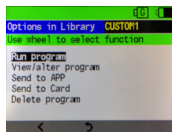

Fig. 17f
Once a program has been saved it will appear in the Program Driver (PD) library in the right half of the screen under Select a program in the Main Menu. Use the VariBase buttons (right/left) to switch between screen areas. If you select a custom program you will have the following options (Fig. 17f):
2a. *View/alter program (Fig. 17f):* Here the parameters of the custom program can be viewed or edited. Edit by choosing the step you want to edit and then select the editing icon . See: **4.1.7.1 Defining/setting custom programs (programming frequencies)**. After the desired change move to the second page of the step and save changes. Editing is done separately on each step.
3. *Transferring (Send to APP & Send to Card) (Fig. 17f):* You have the option to save your custom program to your account on the VariAPP or to the empty Program Driver Card (microSD card). For instruction go to: **4.1.4.1.2 & 4.1.4.1.3.**
4. *Deleting custom program (Fig. 17f):* Choosing this option will delete the complete custom program from the VariBase after confirming.